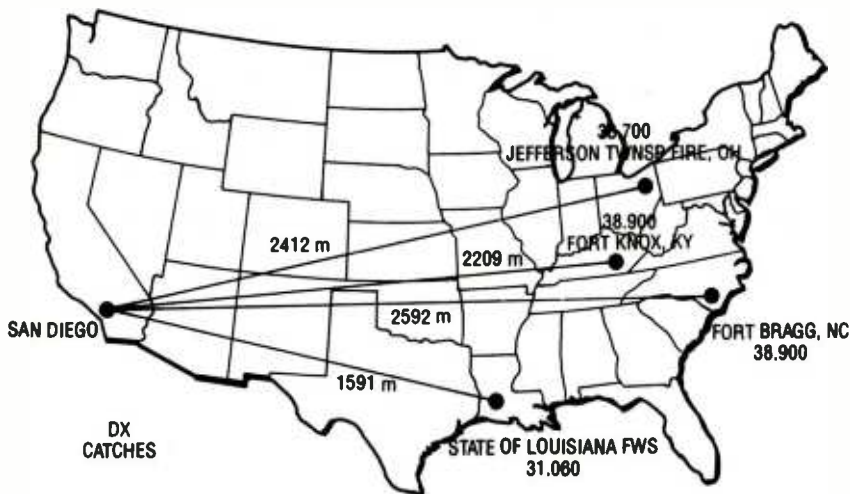

Fig. 1. As you can tell from these catches logged by the author, skip can really help you pull-in transmissions from all over the country.
1. **High-frequency (HF) allocations.** Figure 1 shows the additional frequency allocations made for high-frequency broadcasting. Four conditions were imposed on those allocations:
2. **Satellite sound broadcasting (BSS):** The issues here produced a genuine tug-of-WARC. The conference was divided from the outset on allocation of frequencies. Most Europeans wanted the more economical and propagationally suitable L-Band, with an allocation around 1.5 GHz. However, the U.S. was firmly opposed to that allocation because military aeronautical services are now operating in that band. The U.S. wanted the allocation in the S-band, around 2.3 GHz. Other countries, notably, China, Russia, Japan, India, and Pakistan, wanted the BSS allocation to be around 2.5 GHz. (See Fig. 1)
3. High-definition television (HDTV). This service ran into problems similar to those encountered in BSS, and there was no agreement on worldwide allocations. Instead, Europe, Africa, and Asia will use the 21.4- to 22-GHz band, and the Americas will use the 17.3- to 17.8-GHz band. Feeder links will be in the 18.1- to 18.4-GHz band in the Americas, and 24.25- to -25.25-GHz band elsewhere. (See Fig. 1) These bands will become available on April 1, 2007.